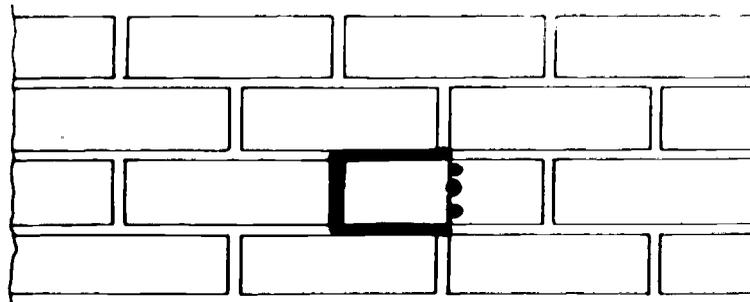

FIGURE 3
- E. Drill three or four holes along box outline in brick (Figure 3)